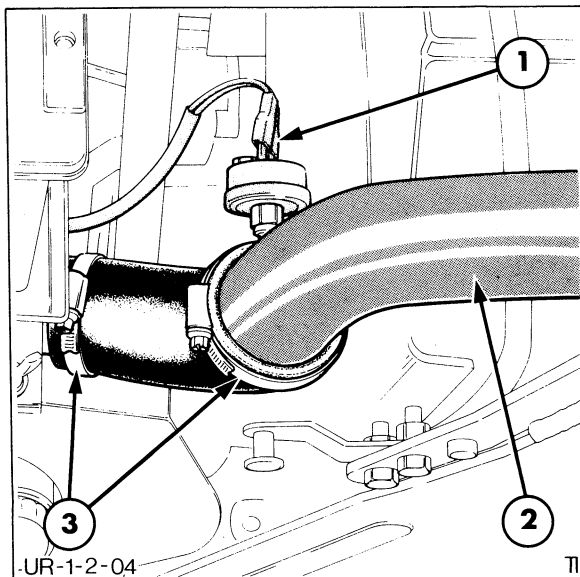

FIGURE 1-74
7. Disconnect the air cleaner restriction switch wires, Figure 1-74.
8. Loosen the hose clamps and disconnect the air cleaner outlet tube at the hose connection to the intake manifold, Figure 1-74.